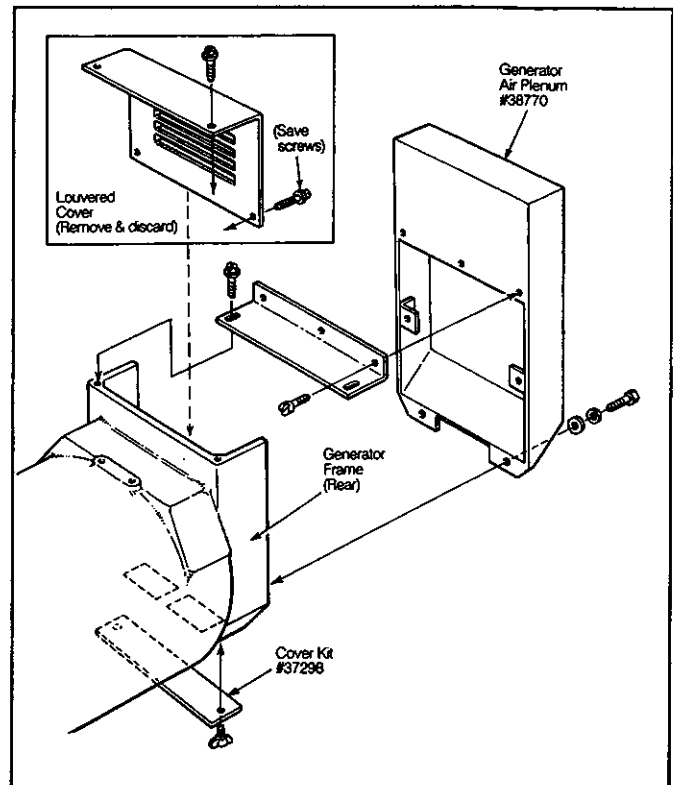

Figure 1. Plenum Mounting
1. Uncrate both the generator set and Sound Guard. Check the contents against packing list. Remove and discard the louvered cover on the back end of the generator (Figure 1). The louvered cover is attached with four metric screws, which should be saved for use in Step 7.